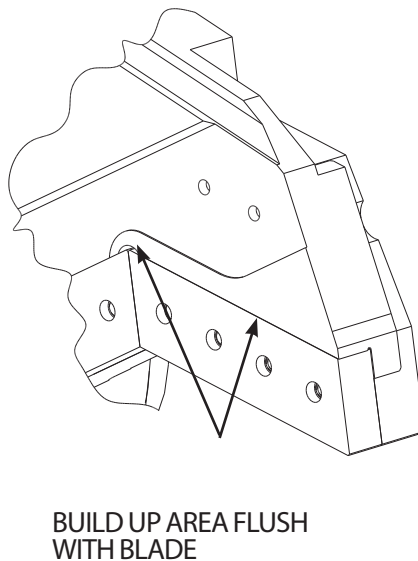

FIGURE 5-24
3. If necessary, build-up along the top and front edges of the secondary blade seat flush with the blade (see Figure 5-24). The blade should not stick out beyond the edge of the seat in this area.